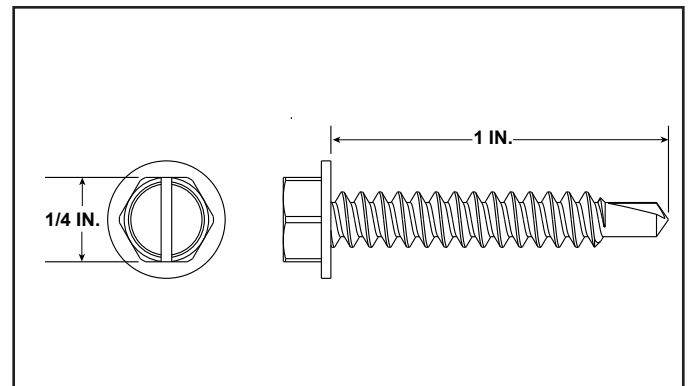

Figure 9.6 One Inch Mixing Screw
1. With the shutter installed, replace the 1/4 inch screw with the mixing screw supplied in manual bag and tighten most of the way. See Figure 9.6.